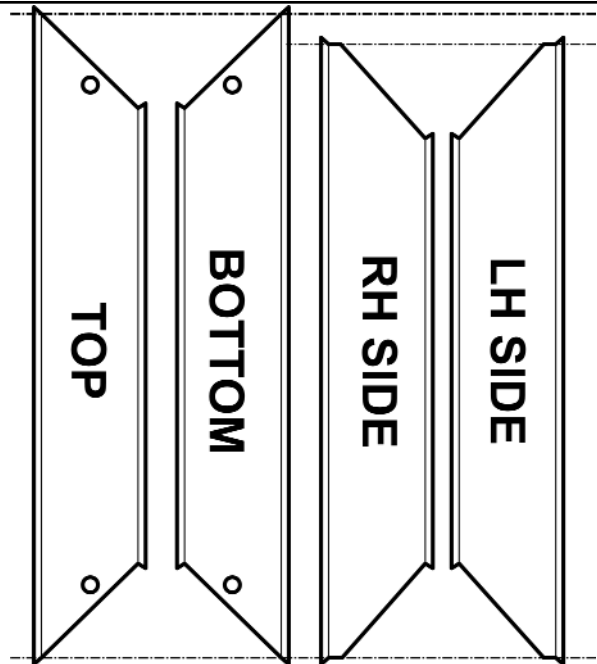

Figure 36. Identifying decorative trims
3. The fascia decorative trim is made up of four sections. A bottom and top section of equal length and two shorter sections of equal length that are the side sections. These can be identified as in figure 36.